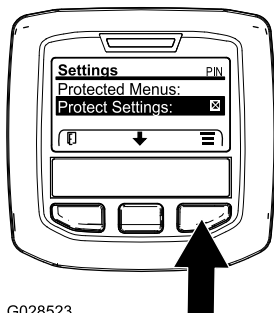

Figure 14
1. From the MAIN MENU, use the center button to scroll down to the SETTINGS MENU and press the right button (Figure 14).